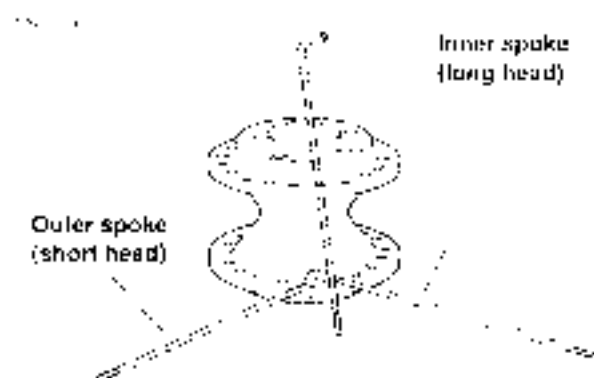

Figure 2-29. Lacing 19-in. Wheel Hub
3. See Figure 2-29. Place hub on bench with the brake disc side up. On dual disc wheel hubs, this is the side with the cast recesses between the brake disc hat holes. Insert one outer spoke (short head) into any bottom flange hole and swing it clockwise. Insert an inner spoke (long head) in the next hole to the left of the outer spoke. Swing the inner spoke counterclockwise over the outer spoke.